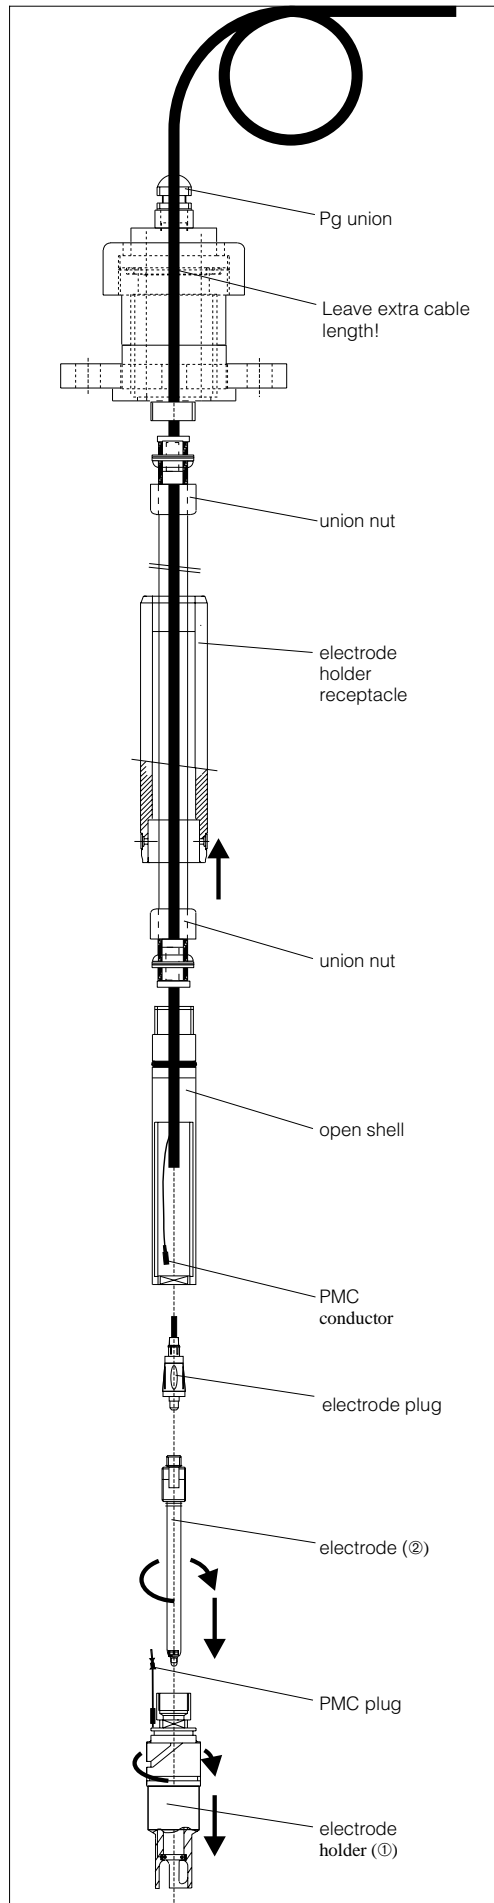

Fig. 5 Mounting pH/Redox electrode and electrode cable with plug
- To Fig. 5, ①: Disengage the bayonet lock by turning the electrode holder and pull the electrode holder out of the assembly.
- To Fig. 5, ②: Screw in the electrode by hand and tighten it with a size 17 socket wrench.